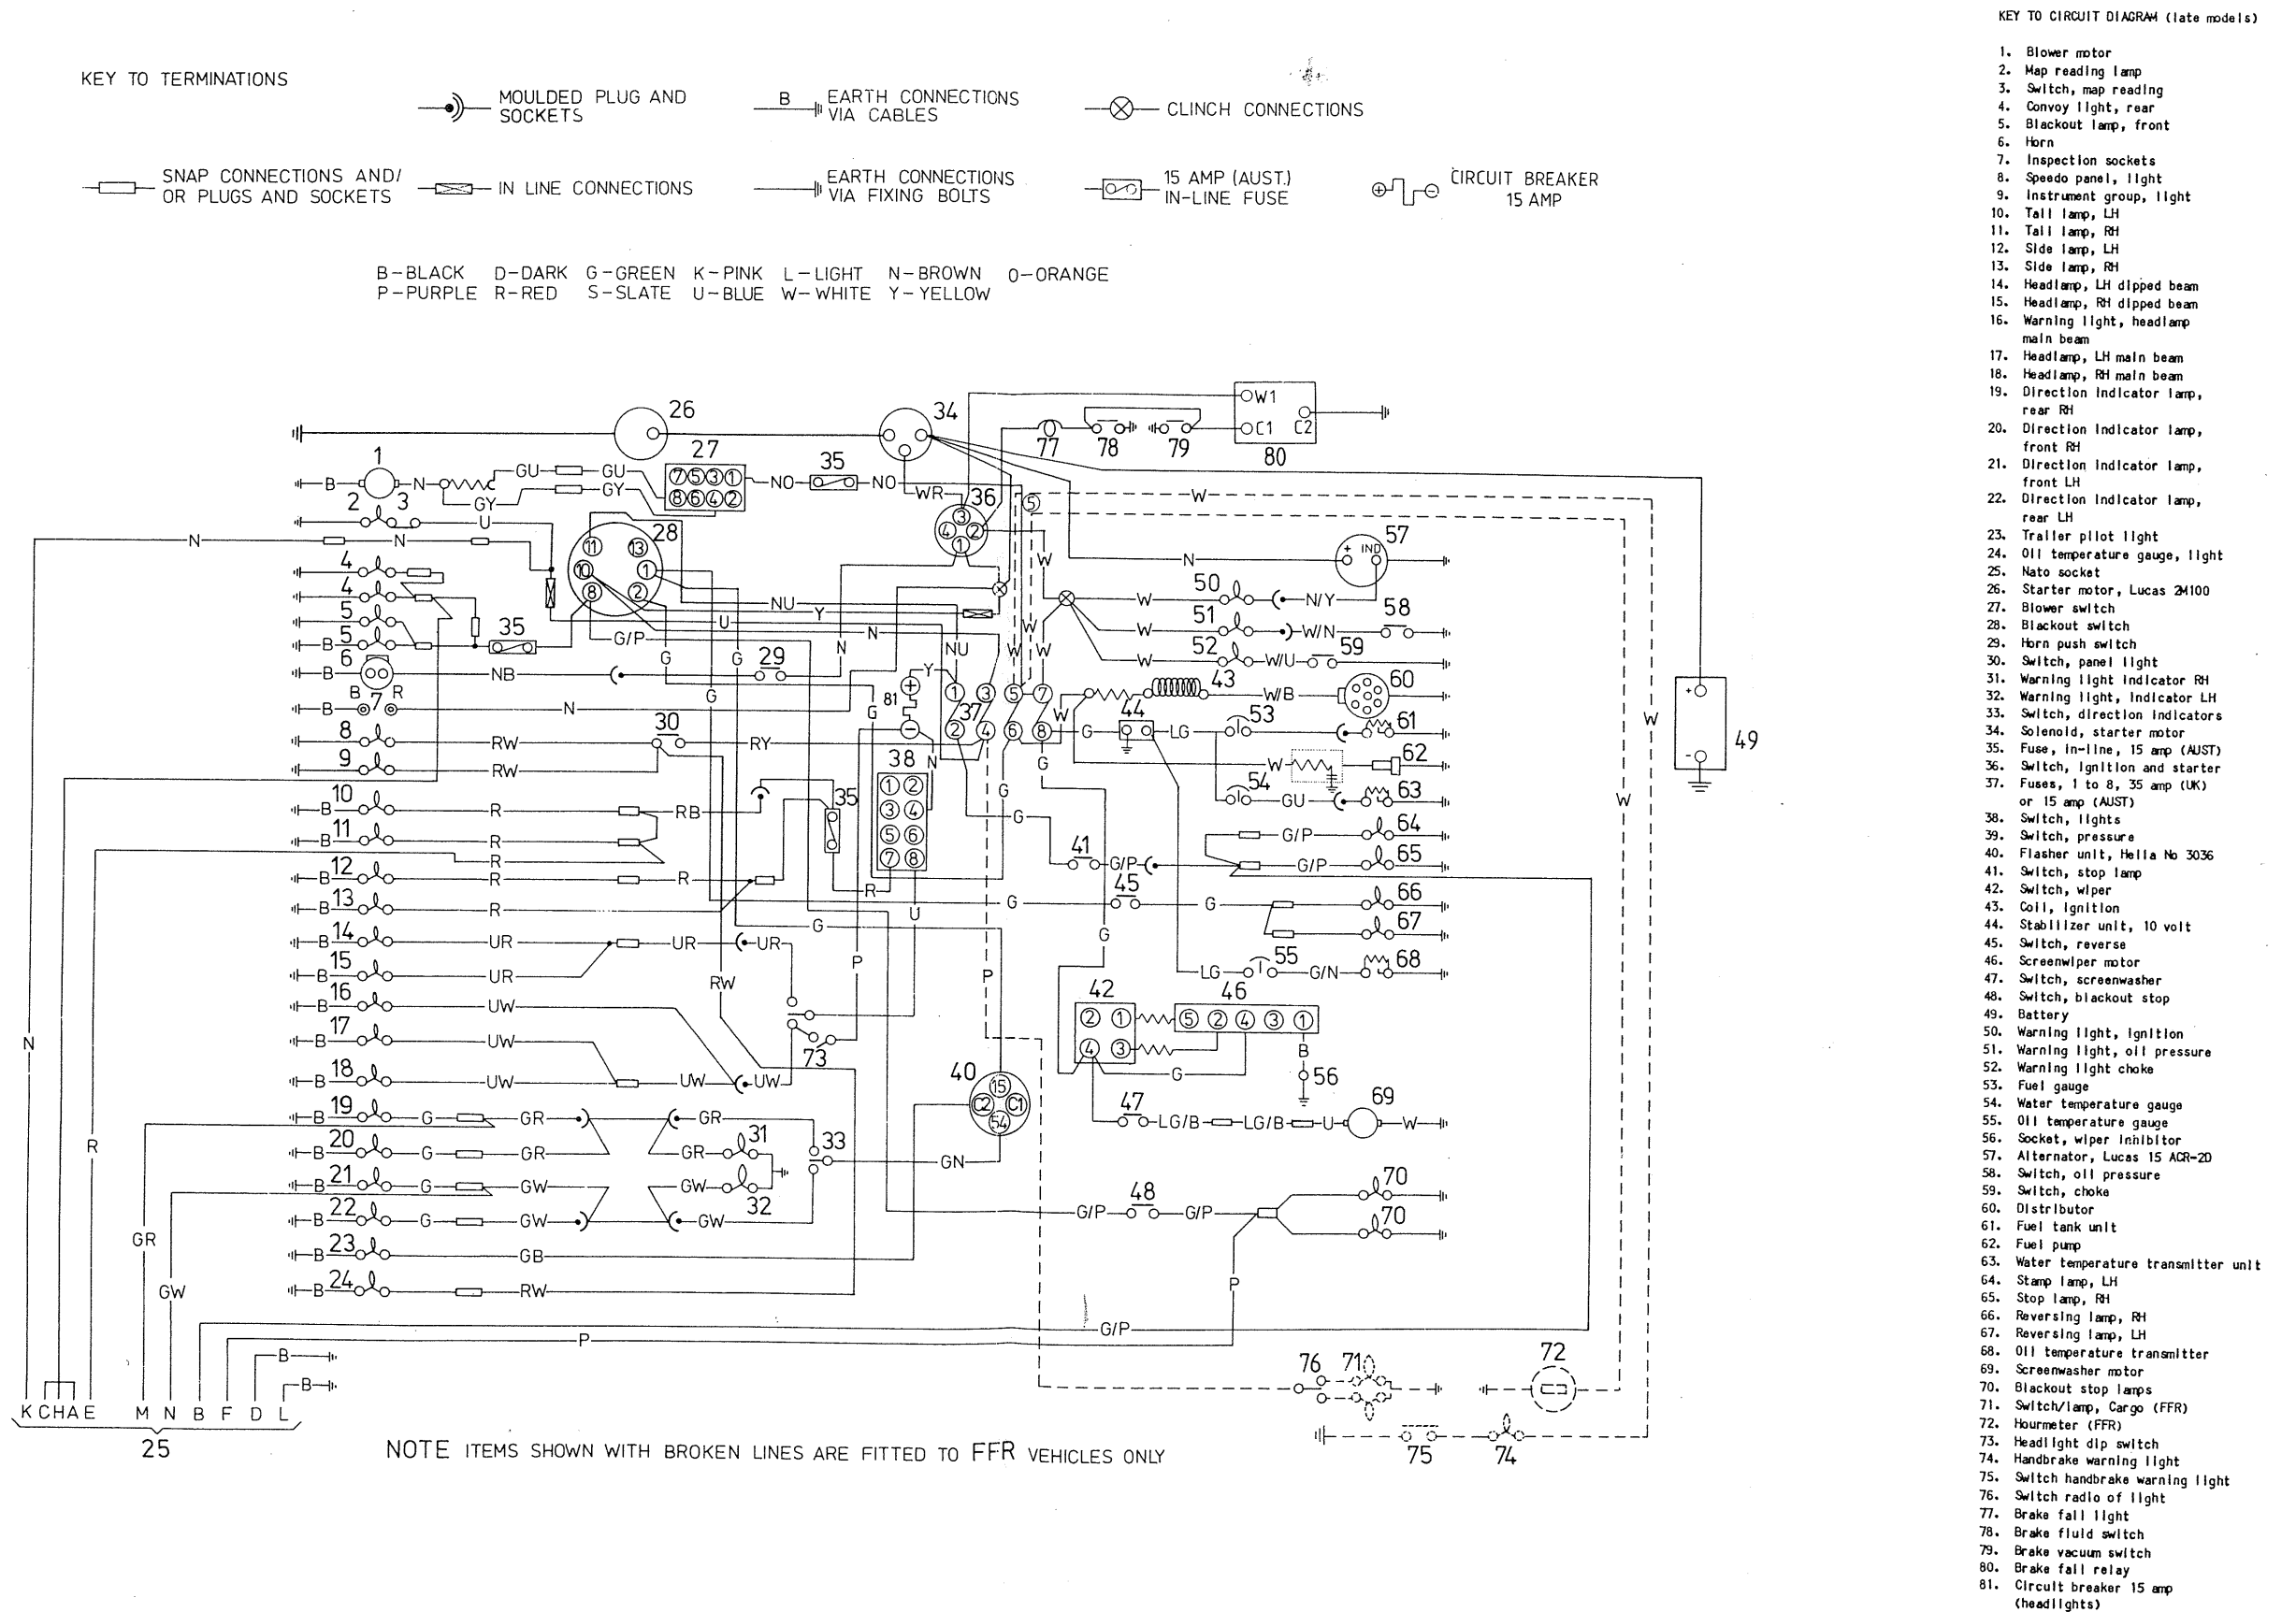

FIG 1 - CIRCUIT DIAGRAM OF LANDROVER SERIES 3
- c. Remove the power feed wire (brown wire) from terminal 3 of the fuse box and re-route to terminal 10 of the blackout switch, (terminal 2 of santon type switch). Use items 1 and 2 of Table 1 to lengthen the power feed wire.
- f. Using items 4, 5 and 6 of Table 1, join the map light wire and the auxiliary power feed wire and re-route to the fuse box terminal 4.
- g. Mount the circuit breaker (item 7 of Table 1) to the flasher can mounting screw.
- h. Using items 2, 3, 4 and 6 of Table 1, join the positive terminal of the circuit breaker (item 7) to the fuse box terminal 1.
- i. Disconnect the high beam flash feed wire (purple wire) and the headlight feed wire (brown wire) from the fuse box terminal 1 and re-connect both wires to the negative terminal of the circuit breaker (item 7).
- j. Check that the modified wiring corresponds to that shown in Fig 1 and reconnect the battery.